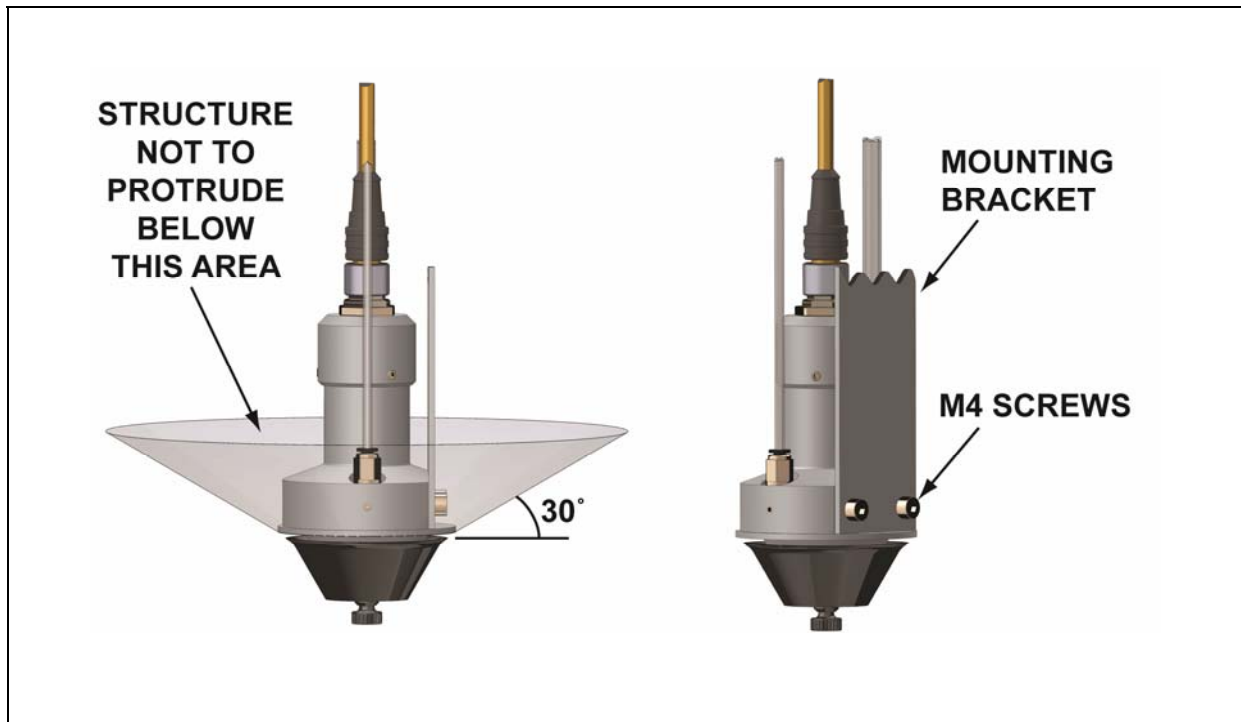

Fig. 3 – Mounting of Atomiser
- The atomiser should be attached to the mounting bracket with two M4 screws in the tapped holes in the side of the atomiser housing (25 mm between hole centres) as shown in Fig. 3. M4 x 12 mm stainless steel cap head screws are supplied with the atomiser and these are suitable for a bracket with a thickness of 2 – 6 mm. If alternative screws are used these should also be stainless steel.
The bracket and any adjoining structure should not protrude below the area shown in Fig. 3. This is to minimise contamination by spray droplets from the rotating disc.